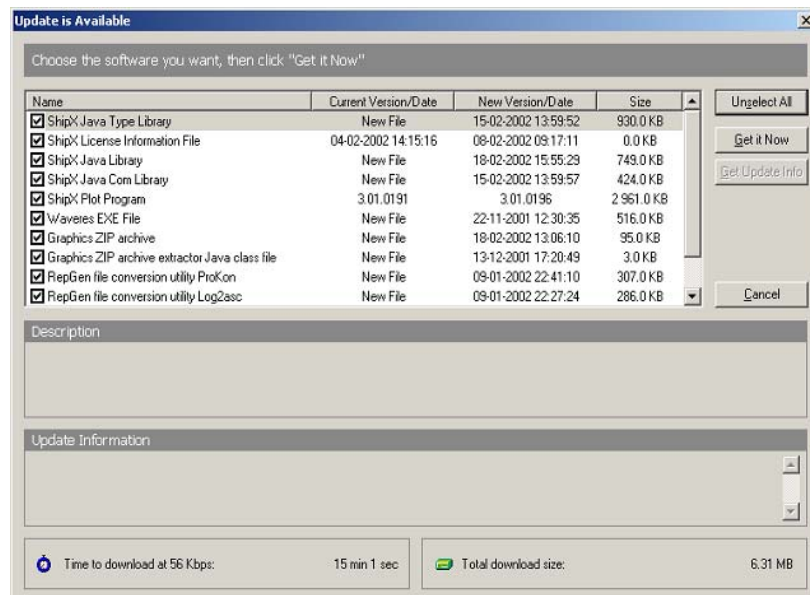

Figure 1.6 SHIPX Auto Update Utility
5. The SHIPX Auto Update Utility is started, and all the licensed components will be installed/updated on your PC when you click the **Get it Now** button (see Figure 1.6).